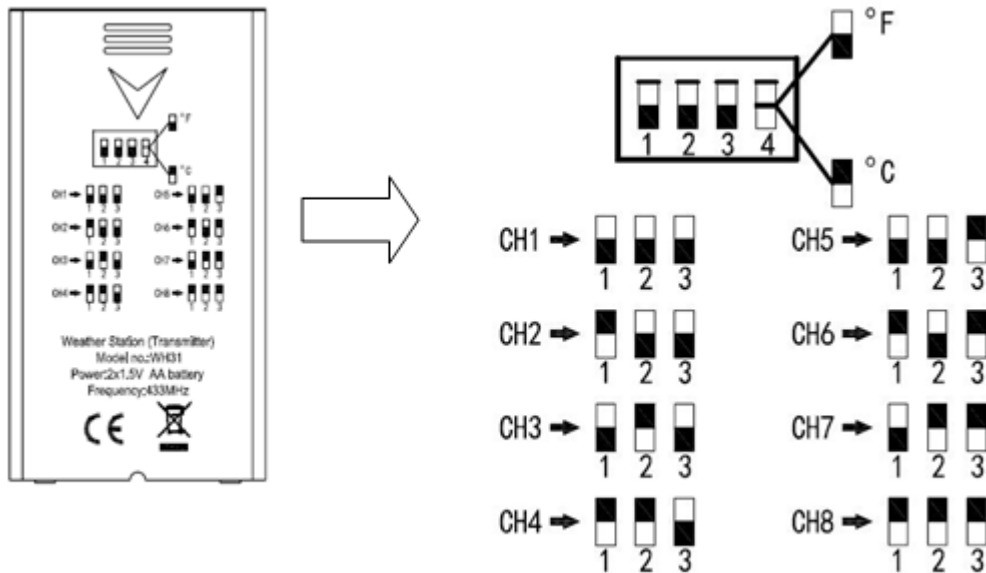

Figure 3
3. **Channel Number:** The WS-2000 and WS-5000 supports up to eight transmitters. To set each channel number (the default is Channel 1), change Dip Switches 1, 2 and 3, as referenced in Figure 3.
4. **Temperature Units of Measure:** To change the transmitter display units of measure ($^{\circ}\text{F}$ vs. $^{\circ}\text{C}$), change Dip Switch 4, as referenced in Figure 3.